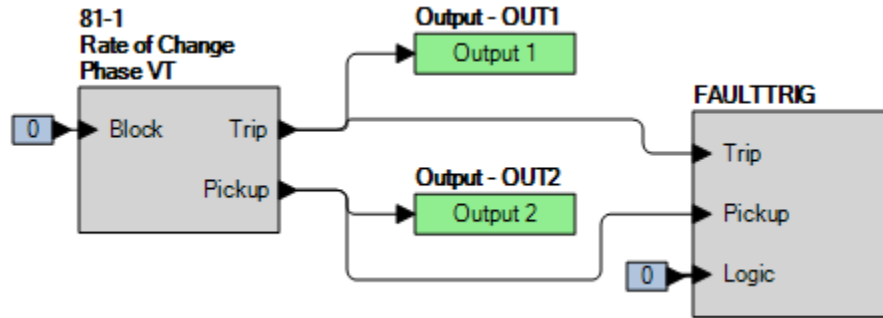

Figure 62-4. BESTlogic_{Plus} Settings (ROC Inhibit)
Step 2: Use BESTCOMSP_{Plus} to configure the BESTlogic_{Plus} programmable logic shown in Figure 62-4.